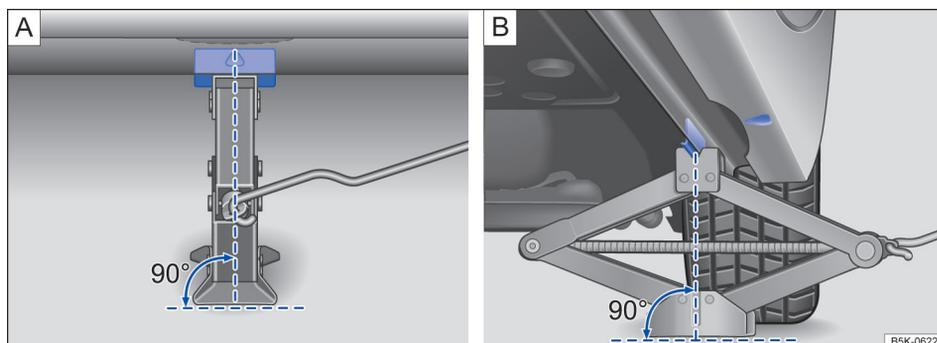

Fig. 190 Jack in position at the left rear lift point.
12. Position the jack so that its base is directly underneath the lift point → fig. 190, making sure that the entire base of the jack rests securely on the ground.
13. Align the jack and wind up the jack claw at the same time, until the claw cradles the vertical rib underneath the vehicle → fig. 190 (arrow).
- Position the jack only at the described vehicle lift points. Before you raise your vehicle, always make sure the jack claw properly grips the vertical rib under the sill so that the jack does not slip off when you are raising the vehicle → fig. 190.